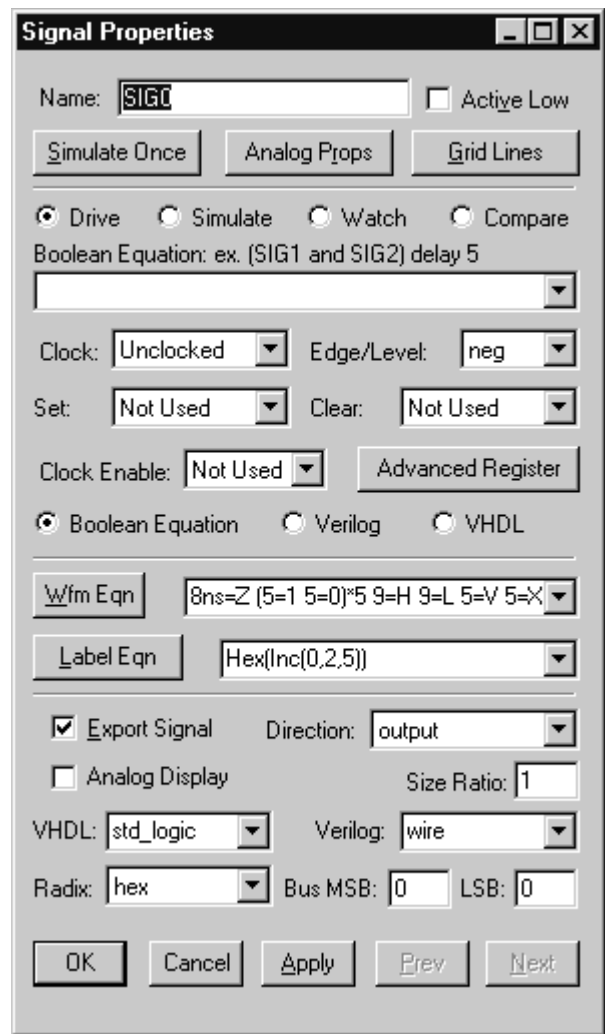

Figure 3.2: Signal Properties dialog
- Double click the signal name in the signal window to open the *Signal Properties* dialog (see Figure 3.2).